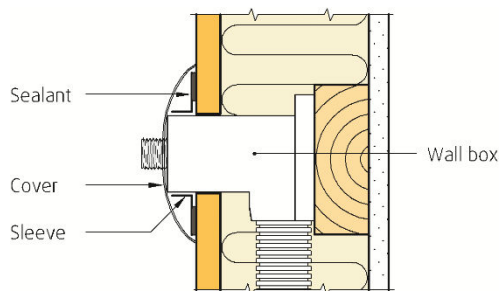

Fig. 3
- Sleeve delivered with the wall box is to be attached to the Fibo Wall Panel using Fibo Seal. See Figure 3.